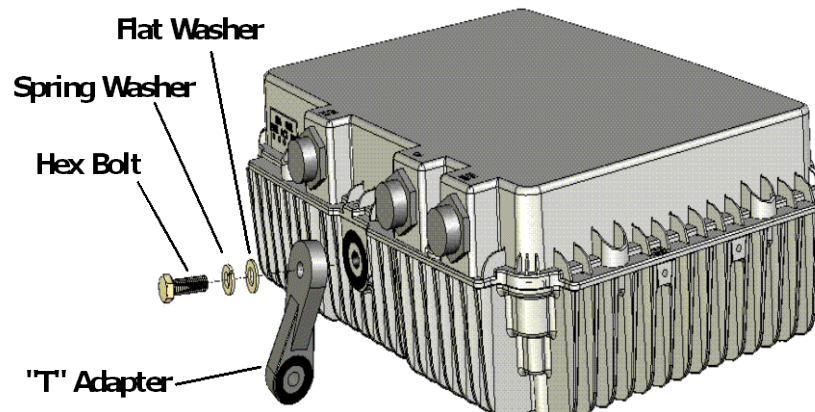

Figure 2: Mount 'T' Assembly
- Attach the 'T' adaptor to the NetPoint Pro 3x2.4 using an M8x25 hex bolt [G], a spring washer [I], and a flat washer [H], as illustrated in Figure 2.